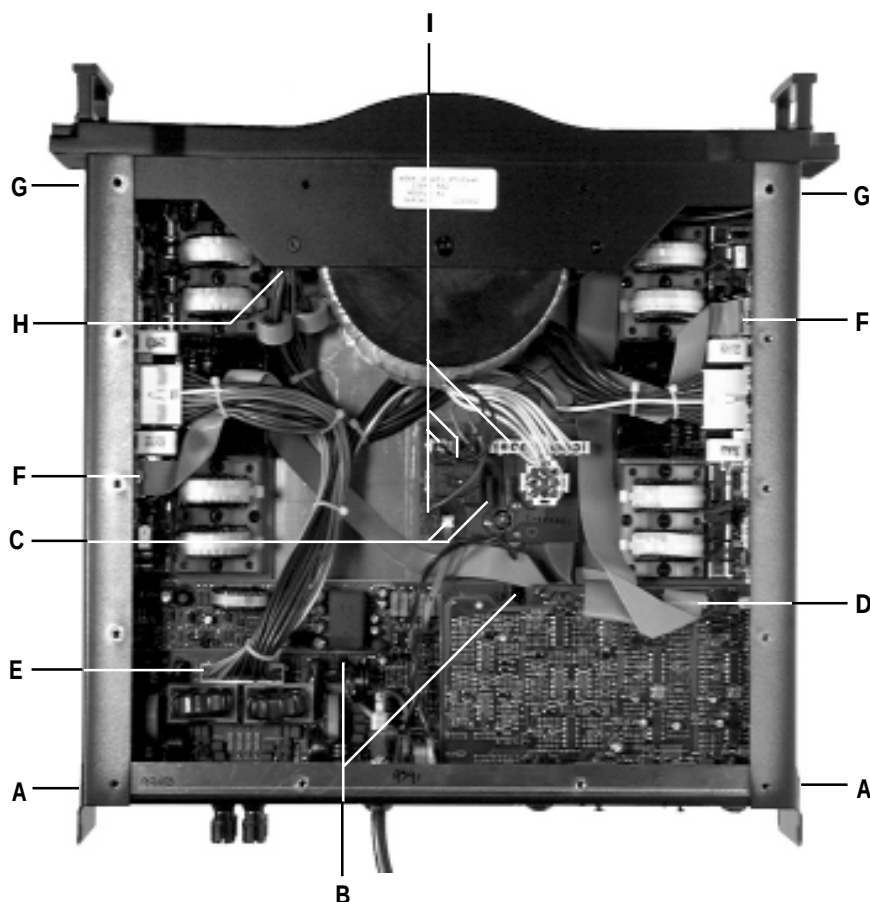

Figure 5.2 Bottom View
3. Using a TX15 bit, remove the two screws on each side of the amp that hold the rear supports. See Figure 5.2. **Item A**
5. Remove the two TX15 screws on the Main PWA. See Figure 5.2. **Item B**
6. Unplug the black and white wires (P8 & P9) and the ribbon cable (P4) from the Control PWA. See Figure 5.2. **Item C**
7. Unplug the P1 ribbon cable from the Input PWA. See Figure 5.2. **Item D**
8. Unplug the main wiring harness from the Main PWA. See Figure 5.2. **Item E**
9. Remove the necessary tie wraps and unplug the ribbon cables from the Output PWAs. See Figure 5.2. **Item F**
2. Using a TX 15 bit, remove two screws on each side of the amp located directly behind the rack ears. See Figure 5.2. **Item G**
4. Unplug the main wiring harness from the Bridge PWA. See Figure 5.2. **Item H**
5. Remove the P1 ribbon connector from the Input PWA. See Figure 5.2. **Item D**
6. Remove the P5 and P6 transformer wire connectors, and P10, P11, P12 and P13 switch wires from the Control PWA. See Figure 5.2. **Item I**